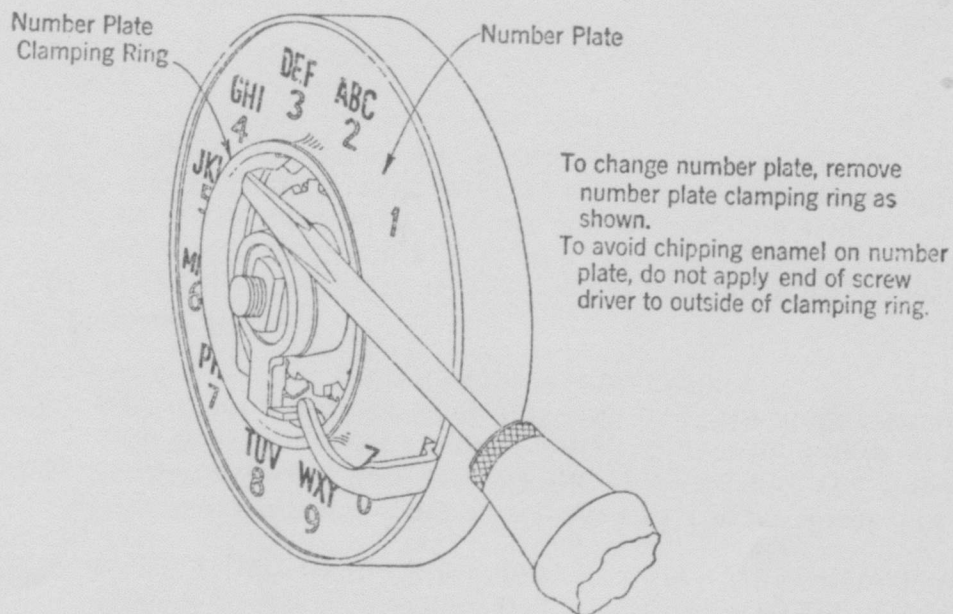

Fig. 4.
- 3.03 If the number plate is dirty, wipe it clean with a clean, moist KS-2423 cloth. If the number plate is badly marred or if the enamel is chipped, replace it. To change the number plate, remove card holder, and then remove number plate clamping ring as shown in Fig. 4.